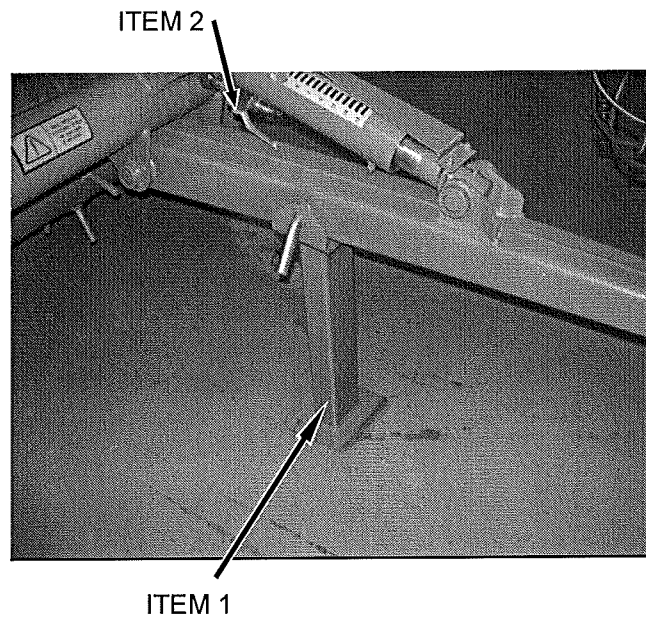

Fig 5.2
The jackstand is provided so that the machine is held at a suitable height for safely coupling to the tractor (fig 5.2 item 1). It is possible to adjust the height of the drawbar when fitting to the tractor. Connect the hydraulic hoses to the tractor, open the transport lock valve (Fig 5.2 item 2) and connect the electric control box. Operate the up and down share control in the driver's control box until the correct height of the drawbar has been reached.